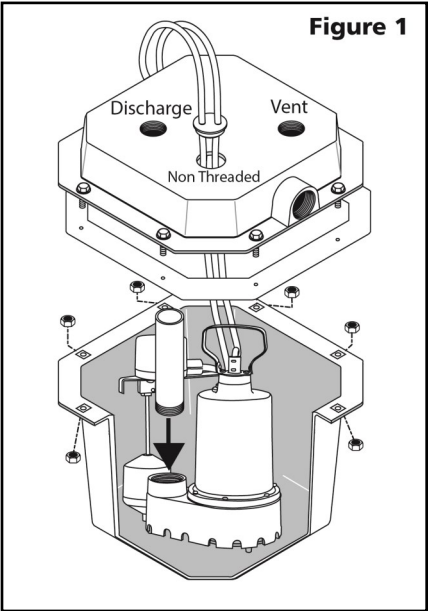

Figure 1
4. Pull the power cords through the non threaded hole in the cover as shown in Figure 1.
7. Fasten the cover to the basin using the bolts that were inserted in Step 2 and eight nuts as shown in Figure 1. Make sure not to over tighten.